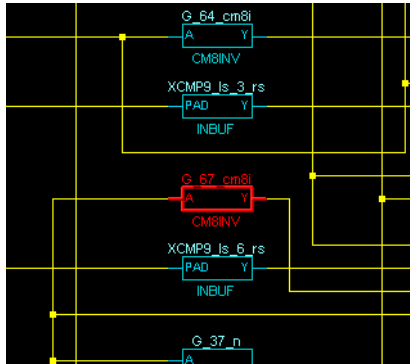

Figure 2-8. Highlighted Object
2. From the Edit menu, click **Highlight** or click the **Highlight** button in the toolbar. The object changes from yellow or blue, to red, as shown in Figure 2-8.